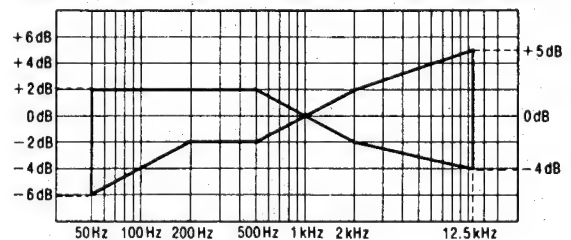

Fig. 9
8. Assure that the level is within the range shown in Fig. 9.